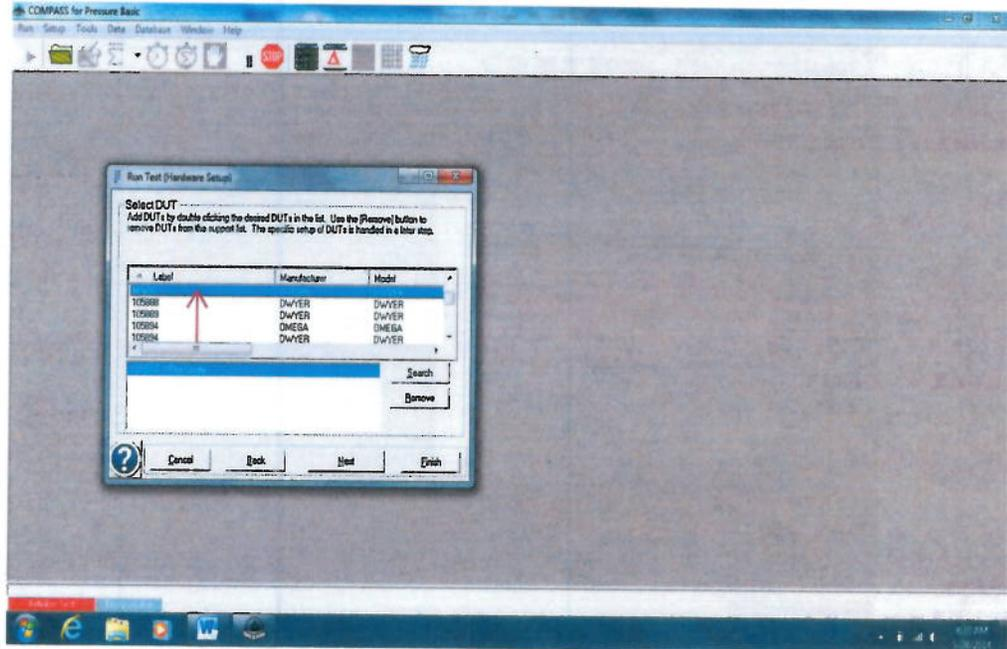

Figure 16
11.16 Double-Click on the highlighted “DUT” (device under test). See Figure 16.